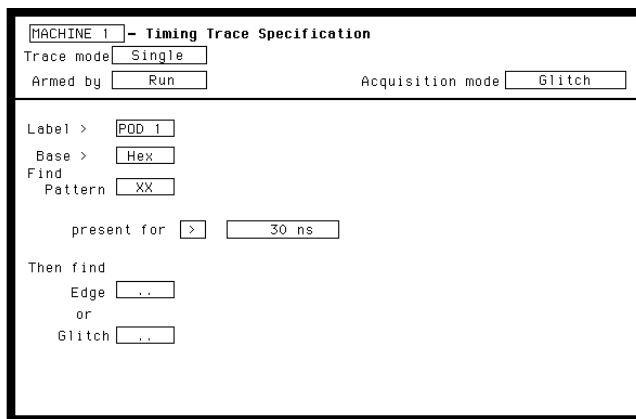

Figure 3-37. Threshold Accuracy Trace Specification
4. Set **Timing Trace Specification** as in figure 3-37. Follow steps a through c if unfamiliar with menus.
11. Press RUN. Data displayed on **Timing Waveforms** all high for the pod and channels under test as in previous test figure 3-37.